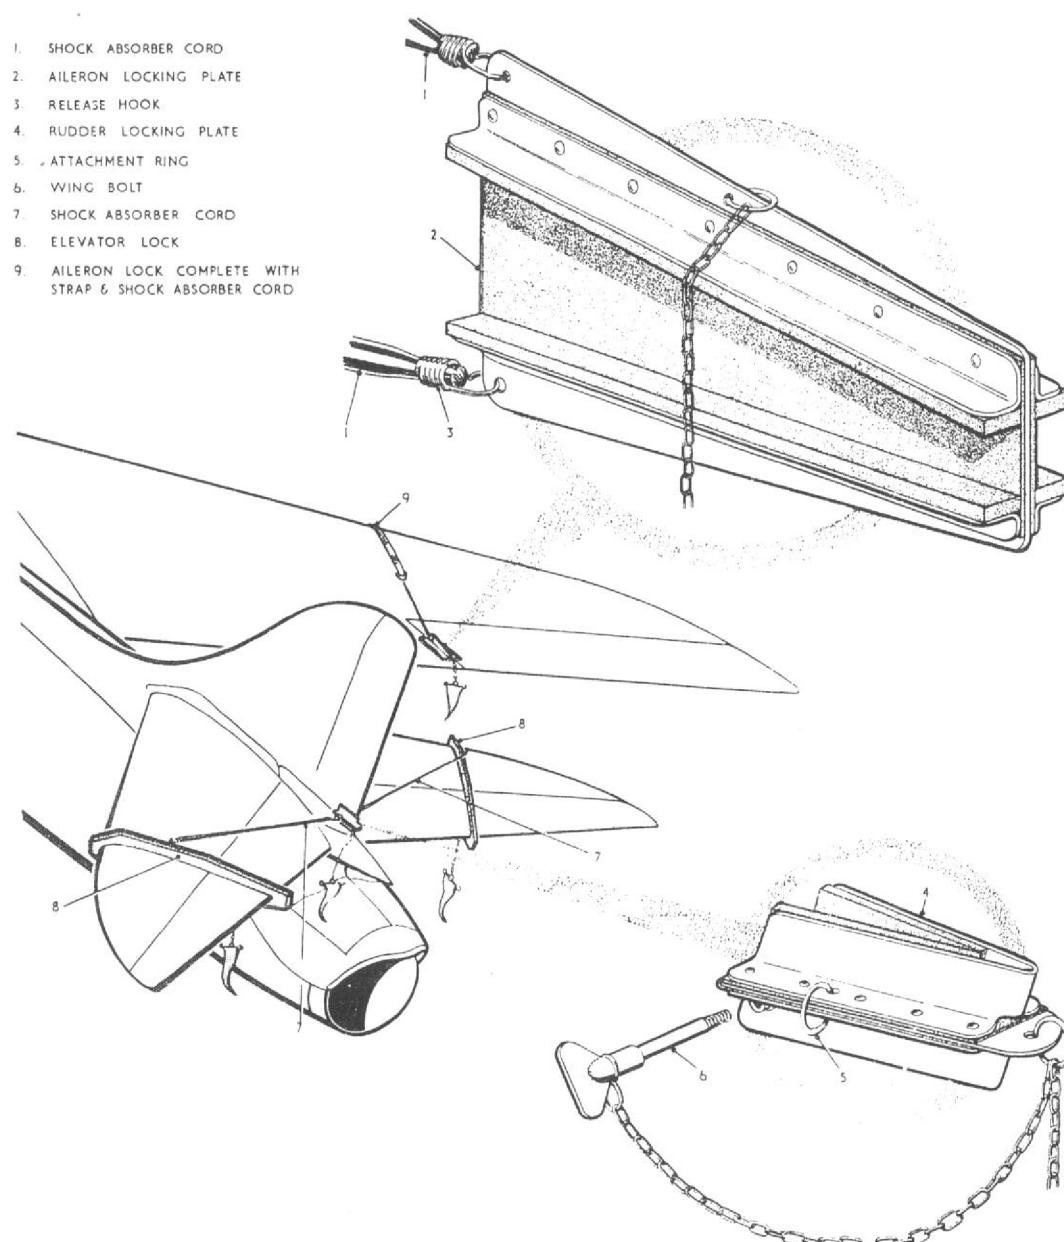

Fig. 4 Control surface locking clamps
**Control surface locking clamps (fig. 4)**